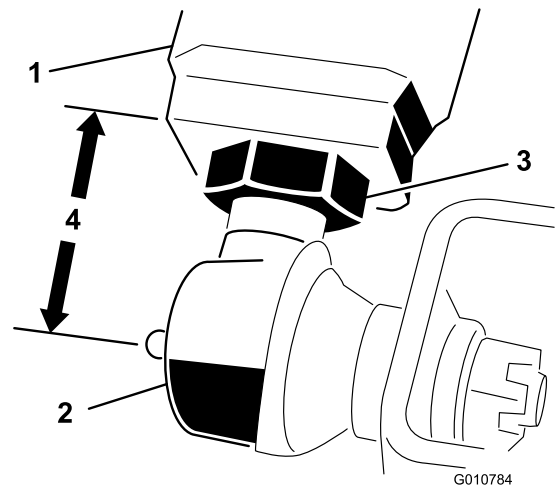

Figure 6
2. Measure the distance from the end of each lift arm to the center of the ball joint (grease fitting). The distance should be 57 mm (2-1/4 inches) (Figure 6).
5. Tighten the large jam nut that secures the ball joint to the lift arm (Figure 6).